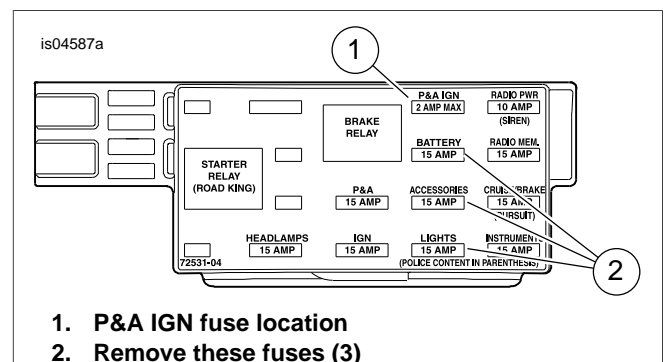

Figure 14. P&A IGN Fuse Cavity (2004-2007 Touring Models)
- ALL models:** See Figure 14. Locate the fuse cavity marked "P&A IGN", "2A MAX" (1). There is a bus bar feeding one side of this circuit, but no mating wire or fuse